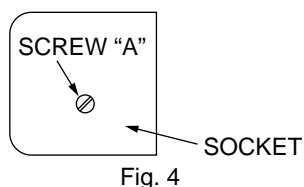

Fig. 4
4. Replace socket cover and tighten screw "A". (See Fig. 4.)